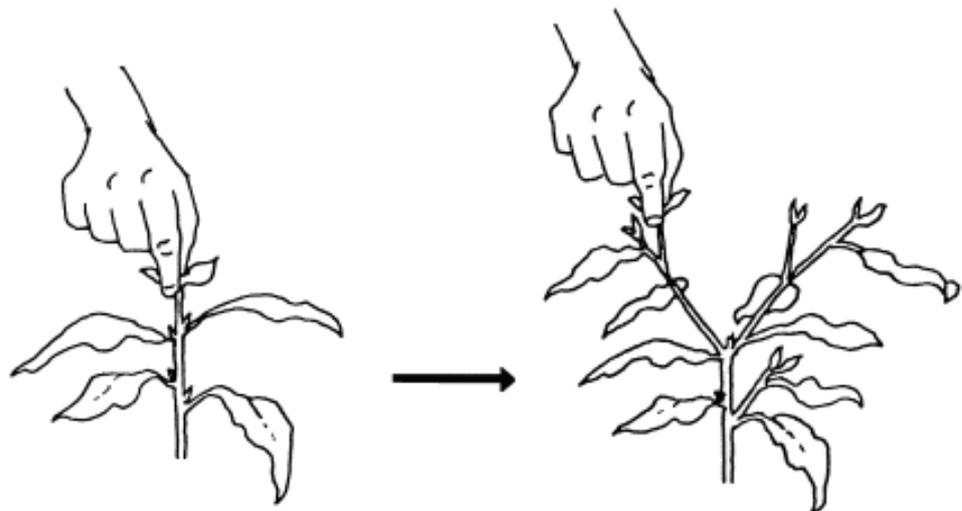

Figure 16. Tip pruning to encourage side branching
- **Tip pruning (all varieties).** For the first 18 months after planting, regularly pinch out the growing tips to give more side shoots (Figure 16). This helps develop a bushier, more rounded tree, which comes into bearing a little earlier.
Continue the tree shaping operations started at planting—either pinching out of the growing tips (for the first 18 months) or removing and cutting back of side branches to produce a strong central leader (Reed and Lamb Hass only, and only for the first 12 months)—see Figures 16 and 17. Remove lower limbs (skirting) only if these are interfering with irrigation or fertiliser placement. Avoid heavy pruning of any part of the canopy at this stage.